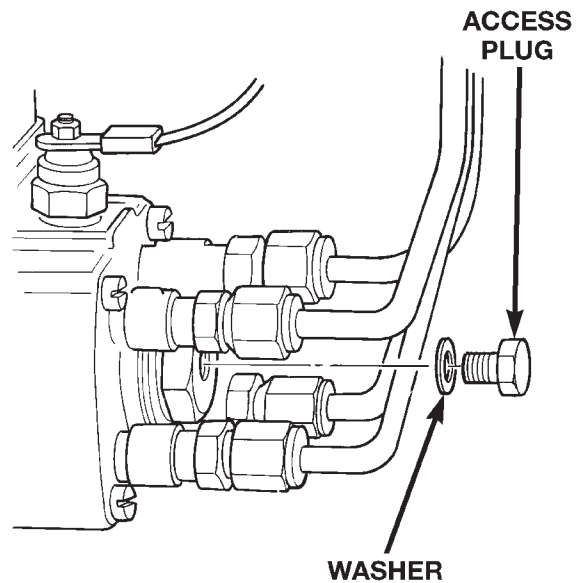
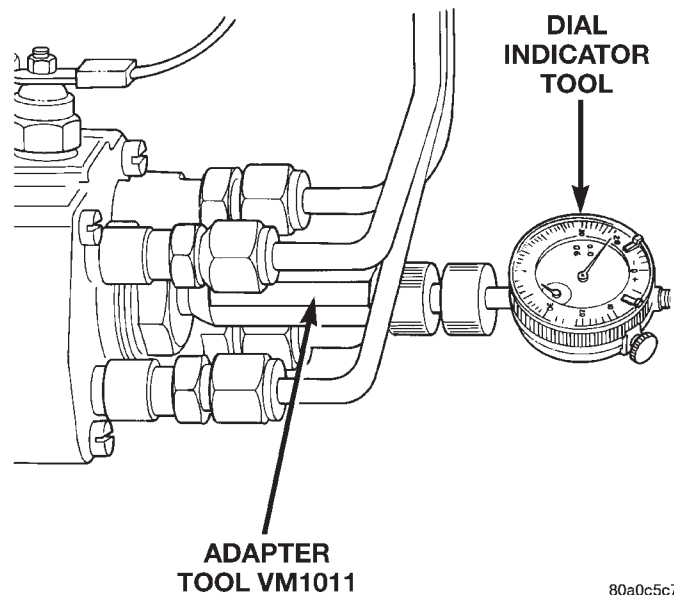

Fig. 33 Access Plug at Rear of Pump
Fig. 34 Installing Dial Indicator and Special Adapter Tools
- (1) Clean the mating surfaces of injection pump and timing gear cover.
- (2) Install a new injection pump-to-timing gear cover gasket.
- (3) Remove the gear removing bolt (drive bolt) from gear puller. **CAUTION: Do not remove the special gear puller or timing cover adapter tools from timing cover at this time. Gear misalignment will result.**
- (4) Place the key way on the pump shaft to the 11 o'clock position as viewed from the front of pump. Install the pump into the rear of timing gear cover while aligning the key way on pump shaft into pump gear.
- (5) Install and snug the 3 injection pump mounting nuts. This is not the final tightening sequence.
- (6) Remove the special gear puller and adapter tools from timing gear cover.
- (7) Install the injection pump drive gear nut. Torque the nut to 88 N·m (65 ft. lbs.) torque.
- (8) Remove the access plug and plug washer at rear of pump (Fig. 33). Thread special dial indicator adapter tool VM# 1011 (Fig. 34) into this opening. Hand tighten only.
- (9) Attach special dial indicator tool VM# 1013 into the adapter tool (Fig. 34)
- (10) Using a socket attached to the front of the crankshaft, rotate the engine in a counter-clockwise direction until